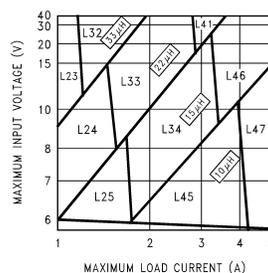
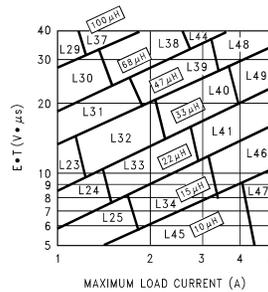

Figure 10. LM2677-3.3
Figure 13. LM2677-ADJ
Step 3: Determine the inductor required by using one of the four nomographs, Figure 10 through Figure 13. Table 1 provides a specific manufacturer and part number for the inductor.
Step 5: Determine an input capacitor from Table 4 for fixed output voltage applications. Use Table 2 to find the specific capacitor type. For adjustable output circuits select a capacitor from Table 2 with a sufficient working voltage (WV) rating greater than $V_{in\ max}$, and an rms current rating greater than one-half the maximum load current (2 or more capacitors in parallel may be required).
Step 3: Use the nomograph for the 3.3V device, Figure 10. The intersection of the 16V horizontal line ($V_{in\ max}$) and the 2.5A vertical line ($I_{load\ max}$) indicates that L33, a 22 μ H inductor, is required.
Step 3: To use the nomograph for the adjustable device, Figure 13, requires a calculation of the inductor Volt•microsecond constant (E•T expressed in V•µs) from the following formula:
Using Figure 13, the intersection of 27V•μS horizontally and the 2A vertical line ($I_{load\ max}$) indicates that L38, a 68μH inductor, should be used.